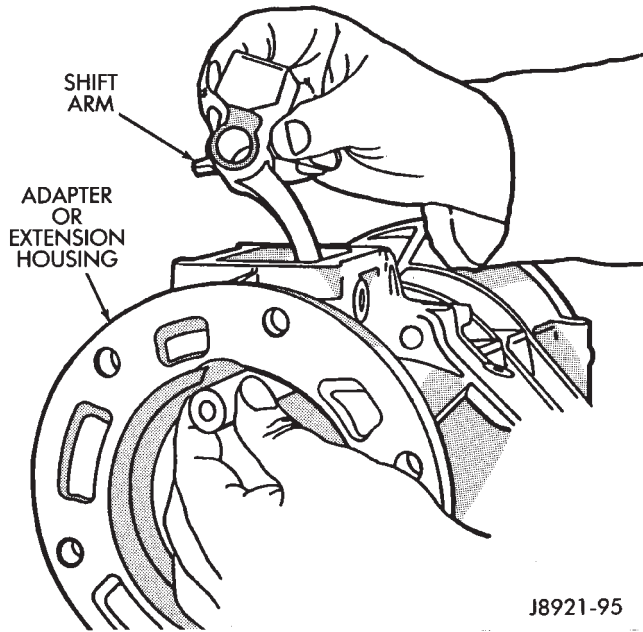

Fig. 43 Install Shifter Arm Shaft
(11) Start shifter arm shaft in hole in back of adapter/extension housing. Align shift arm and shifter arm shaft and insert shifter arm shaft through the shifter arm and into the forward portion of the adapter/extension housing (Fig. 43).